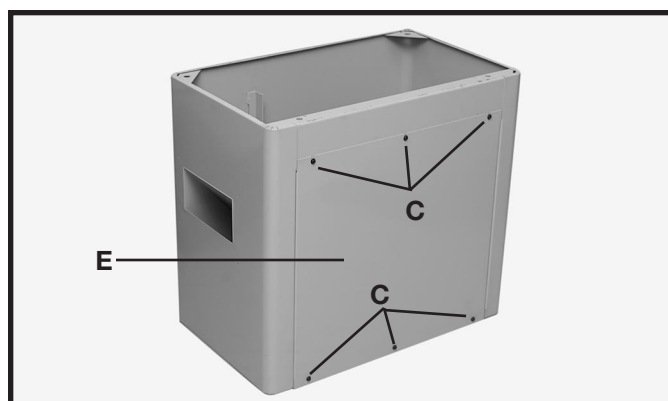

Fig. 4
Your Jointer stand (A) Fig. 4, is shipped with the motor and switch completely wired.
1. Remove the six screws (C) Fig. 4. Then remove back panel (E) from the stand.